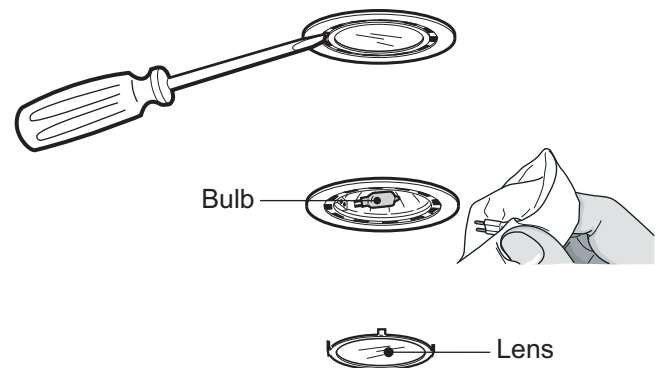

Figure 31: Halogen Light Replacement
1. Using a flat edge from a screwdriver or equivalent tool, pry loose the lens cover, as shown in *Figure 31*.